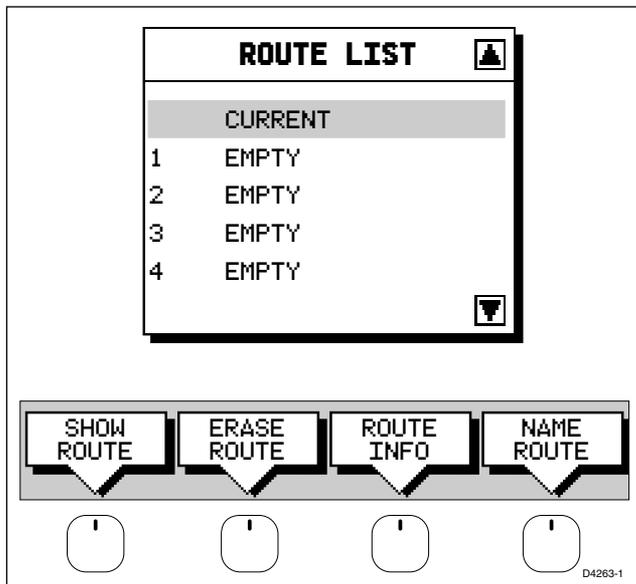

Figure 3-7: Route List Window
1. Press the **ROUTE** soft key, followed by **MORE**, then press **ROUTE LIST**. The route list is displayed as illustrated in *Figure 3-7*. The selection bar indicates the selected route.